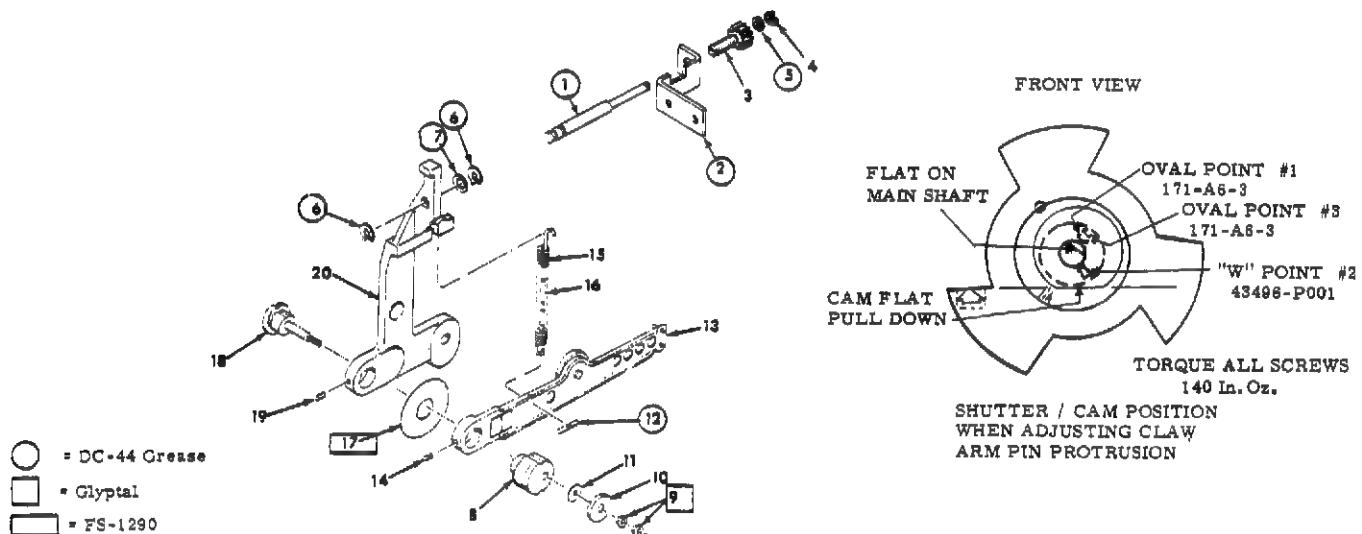

Figure 3-20. REMOVAL AND REASSEMBLY OF CLAW ARM
1. Unhook the top of the Claw Arm Spring from the Framing Arm and make sure all tension is off the Claw Arm before proceeding with these instructions. Throughout this procedure, be extremely careful of the Claw Arm Pins (Figure 3-20).
1. Unhook the top of the Claw Arm Spring (15) from the Framing Arm (20) and make sure all tension is off the Claw Arm (13) before proceeding with these instructions.
2. Remove the oval point Jam Screw (#3 in the Shutter and Shaft Alignment insert on Figure 3-20) and loosen the remaining two Setscrews (#1 and #2 in the insert) and move the Shutter and Cam
1. Apply DC 44 grease (39479-P9) to the Pin (12) and stick the Pin in place on the Claw Arm (13) making sure the notch lines up with the hole in the Claw Arm (13).
2. Apply DC 44 grease to Rod (1) threads.
3. Hook Spring (15) onto the Claw Arm (13) and insert the Claw Arm (13) into the projector between the Framing Arm (20) and the Shutter and Cam Assembly .
4. Lubricate both sides of Washer (17) with FS-1290 lubricant (39479-P4).
5. Assemble Pivot (18), Washer (17), Claw Arm (13), Bushing (8), Washers (11) and (10) and Nuts (9).
6. Tighten Nuts (9) for .001" end play and coat Nuts with Blue Glyptal (39490-P1). The outside Nut is a jam nut to prevent the inside nut from turning off the Pivot shaft.
7. Rotate the Pivot (18) so the Eccentric Pin is between 6 and 7 o'clock when viewed from the front of the projector. Tighten the Pivot Setscrew (19).
8. Rotate the Bushing (8) so its circumference lines up with the circumference of the Pivot (18) and the groove in its side is slightly below the groove in the side of the Pivot (18). Tighten the Claw Arm Setscrew (14).
9. Gently push the Shutter and Cam Assembly forward while pushing down on the Claw Arm (13) making sure the cam follower on the Claw Arm slides under the Cam. Tighten the Setscrew (#1 in the Shutter and Shaft Alignment insert of Figure 3-20) on the flat of the main drive shaft. (See Step 9 under Reassembly of Main Shaft.) Make sure the Claw Arm (13) is not hitting the aperture plate.
10. Hook the top of the Claw Arm Spring (15) on the Framing Arm (20) being very careful that the cam follower on the Claw Arm contacts the radial surface of the Cam.